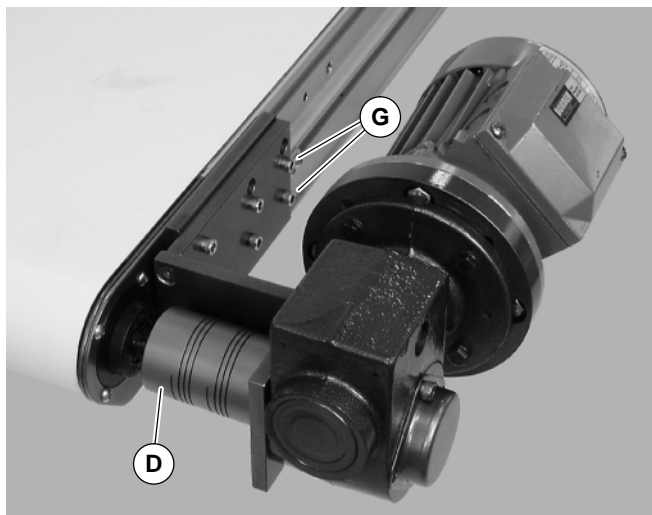

Figure 7
5. Install coupling (D of Figure 7) onto drive output shaft. Attach drive assembly to conveyor with mounting screws (G). Install medium length screws on bottom, long screw upper left, short screws upper right. Tighten screws to 9 Nm.
3. Remove mounting screws (G of Figure 7) and remove drive assembly.